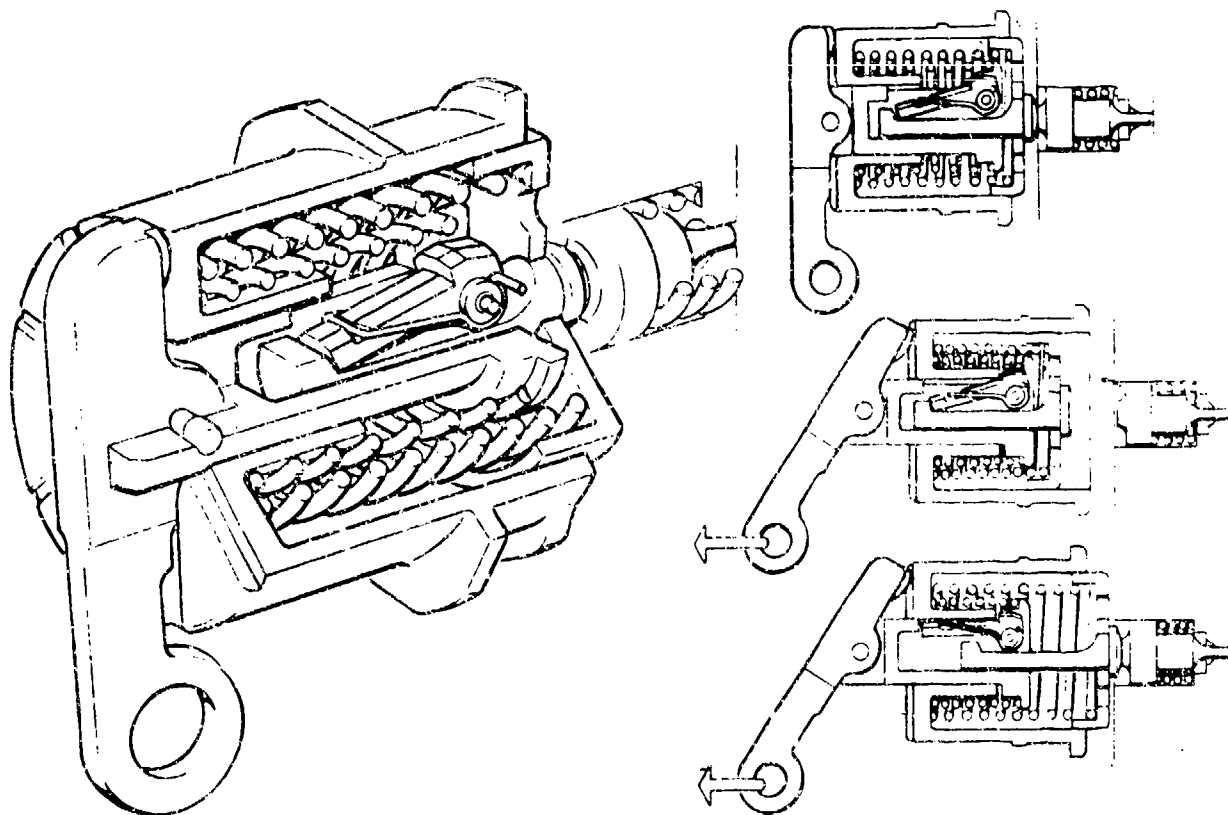

Figure 6-13. Firing mechanism, M35 self-locking continuous pull sequence.
b. *Functioning.* With the primer inserted in the prime holder (fig 6-13), the firing mechanism is then pulled to the right into the firing position. A strong, even, smooth pull on the lanyard will cause the hammer to strike the firing pin.